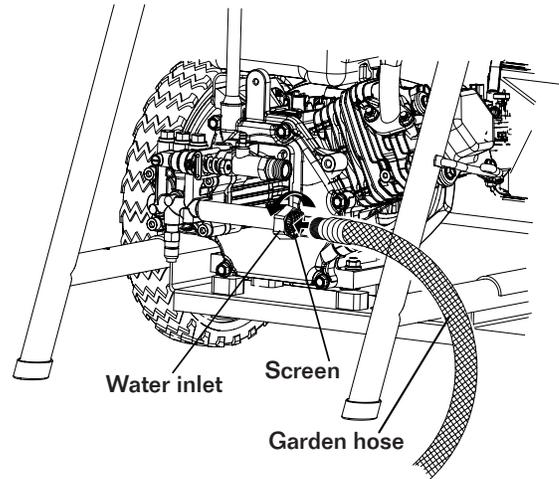

Fig. 6
**CONNECT GARDEN HOSE TO PRESSURE WASHER (SEE FIG 6)**